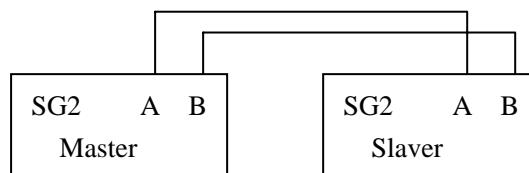

Figure1 : Master-Slaver communication connection
2.1.2.1 Connected A and B lines of two V-type SG2 , as Figure1 ;